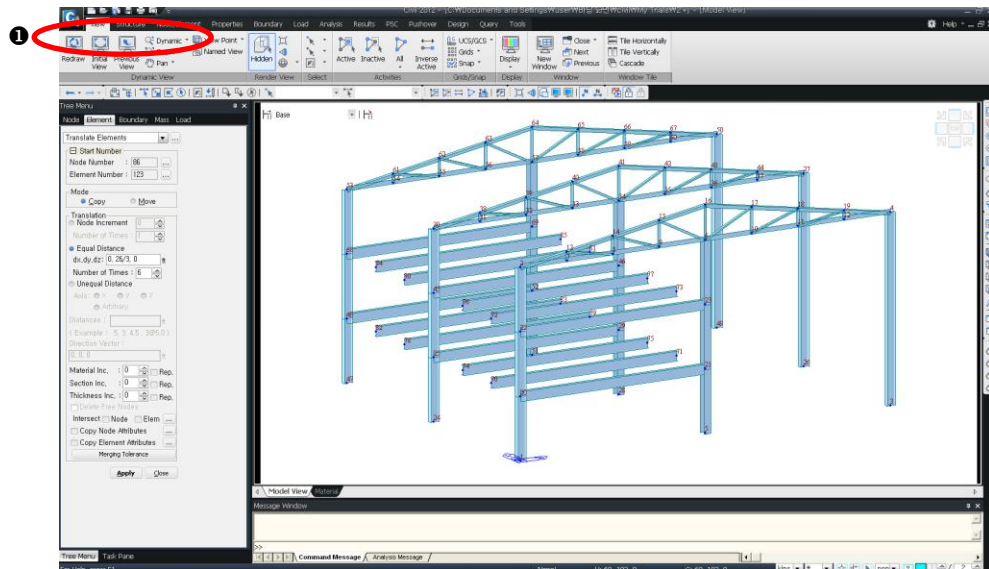

Figure 2.9 Duplicated 3-D Frame
5. Select **Translate Elements** in the functions selection field (Fig.2.9–①).
14. Enter “**0, 26/3, 0**” in the **dx, dy, dz** field. ②